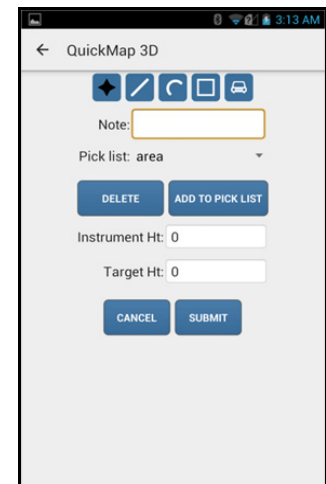

Figure 79
1. On the Description Detail screen (Figure 79), enter the desired description into the Note field.
1. On the Description Detail screen (Figure 79), tap the drop-down arrow ▼ to the right of the Pick List field.
1. On the Descriptive Detail screen (Figure 79), tap the drop-down arrow ▼ to the right of the Pick List field.